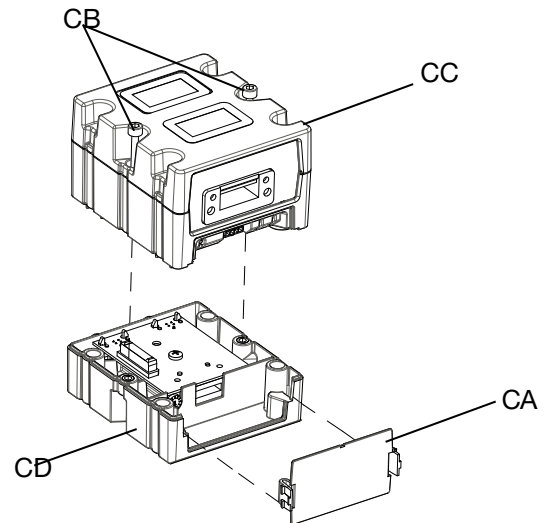

Fig. 34: Disassembling the CGM
5. Remove the access cover from the CGM (CA). Loosen the two screws (CB) and remove the CGM (CC) from the base (CD) as shown in Fig. 34.